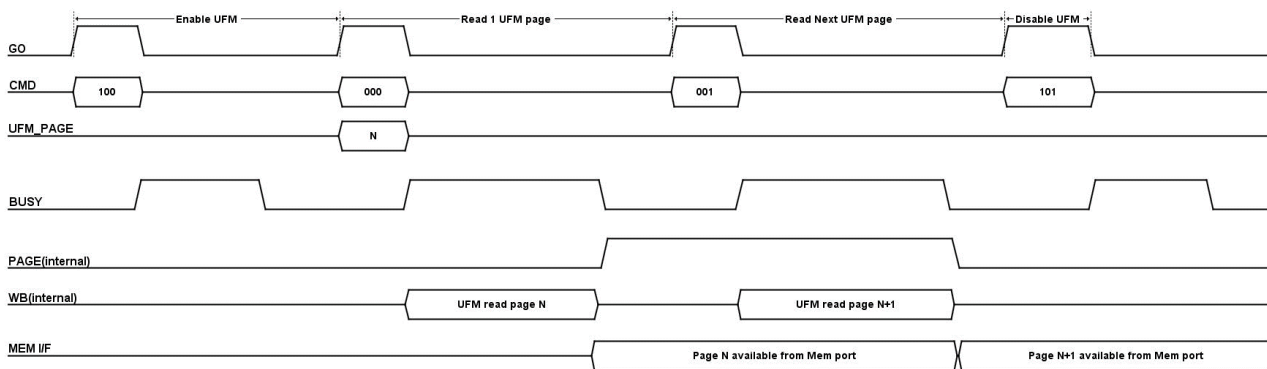

Figure 5.2. Read from UFM Waveform Description
1. Enable UFM access (100) – Check for the BUSY signal to be low and issue an enable UFM command on the CMD bus and issue a GO. BUSY signal is asserted once a GO is recognized.
2. Read 1 page (000) – Check for BUSY signal to be low, issue the Read 1 Page command on the CMD bus, UFM page address on the UFM_PAGE bus and issue a GO. Data read from UFM will be loaded in the DPRAM and user can access the data once BUSY signal goes low.
3. Read next page (011) – Check for the BUSY signal to be low, issue the read next page command on the CMD bus and issue a GO. The internal UFM page pointer is auto. Data read from UFM will be loaded in the DPRAM and user can access the data once the BUSY signal goes low.
4. Repeat steps 2 and 3 until all desired pages have been read. Figure 5.2. illustrates steps 2 and 3.
5. Disable UFM access (101) – Check for the BUSY signal to be low and issue a disable UFM command on the CMD bus and issue a GO. The BUSY signal is asserted once a GO is recognized.